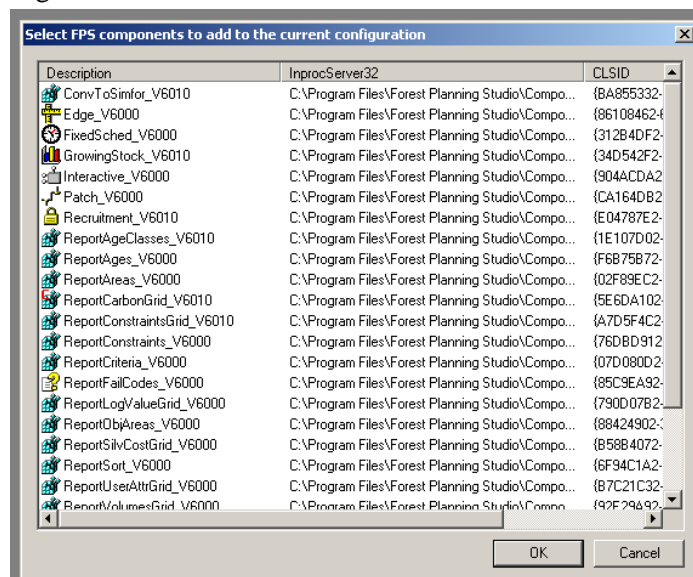

Figure 10: FPS components to add to current configuration window
2.2.2.4 With the cursor in the *Minimum* configuration window right-click. From the drop-down menu select *Append*. The *Select FPS Components to add to the current configuration* window should appear as in Figure 10.